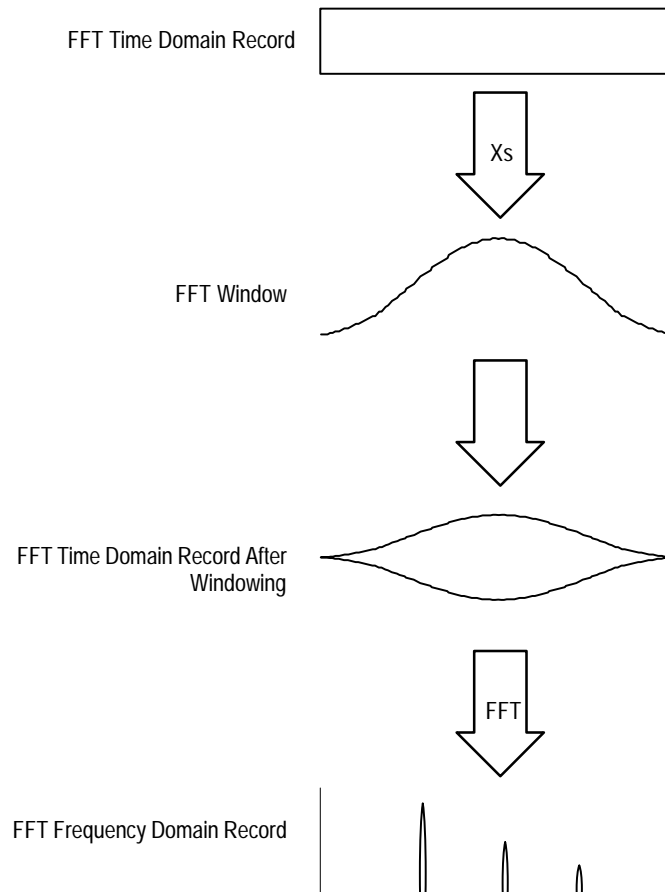

Figure 3–103: Windowing the FFT Time Domain Record
**Windowing Process.** The oscilloscope multiplies the FFT time domain record by one of four FFT windows before it inputs the record to the FFT function. Figure 3–103 shows how the time domain record is processed.
**Window Characteristics.** When evaluating a window for use, you may want to examine how it modifies the FFT time domain data. Figure 3–104 shows each window, its bandpass characteristic, bandwidth, and highest side lobe. Consider the following characteristics: